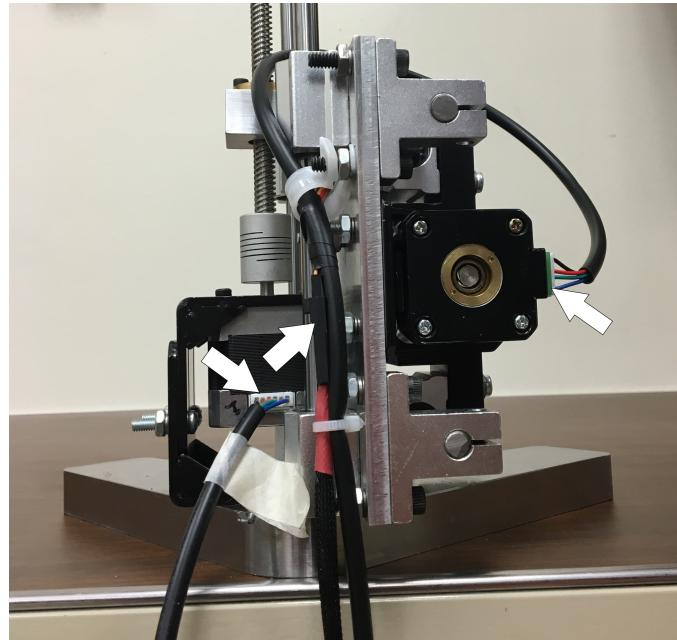

Figure 16: Molex cables secured and out of the way
12. Ensure the three molex cables are securely plugged in to the ARIA (see Figure 16)